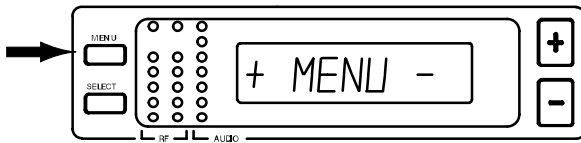

FIGURE 21
- Press the MENU button. The + MENU - display will appear, as shown in Figure 21.